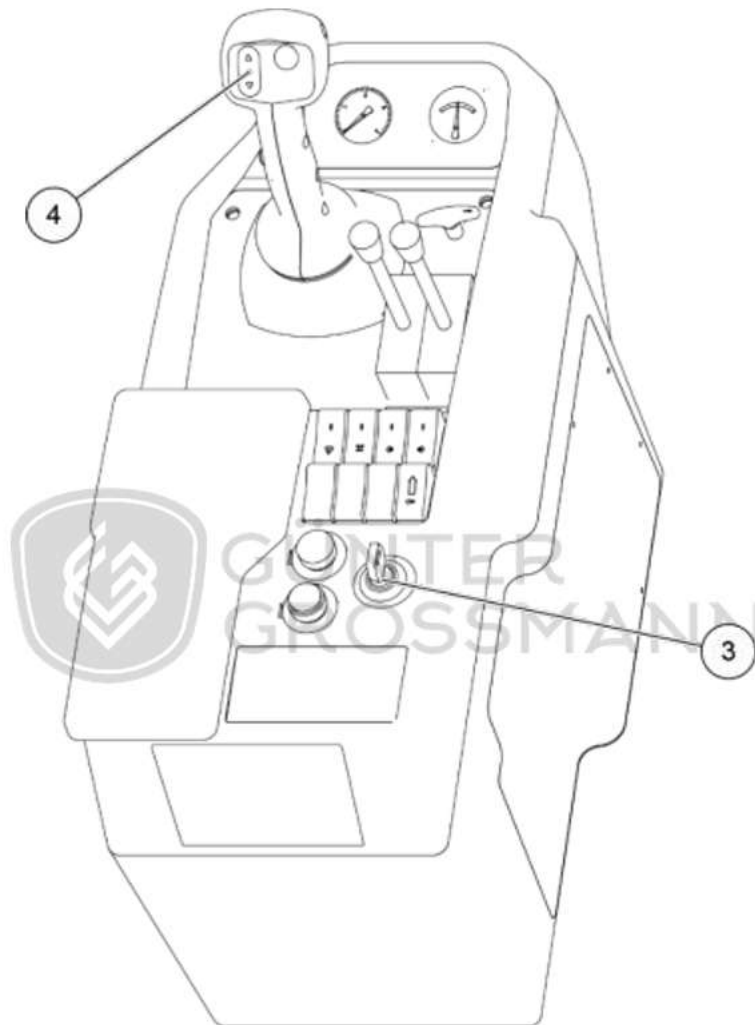

Figure 5-29 Operation platform
(2) Power switch
Step 4: Insert the key into the starting switch(3), the starting switch is in "OFF" state(5), as shown in Figure 5-29 and 5-30;
Step 5: Check and make sure that the travel control switch (4) is in the middle position, as shown in Figure 5-29;
Step 6: Turn the key to "ON" state(6) and hold. At this time, the whole loader circuit is connected;